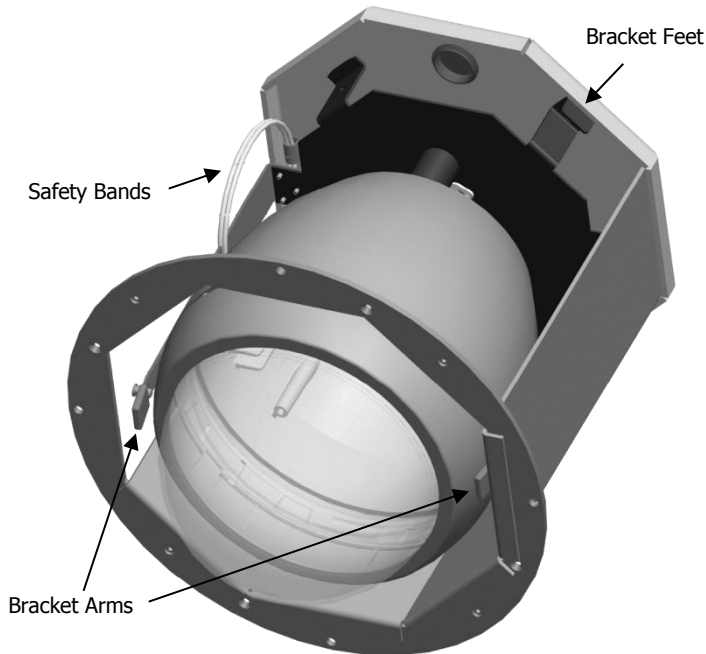
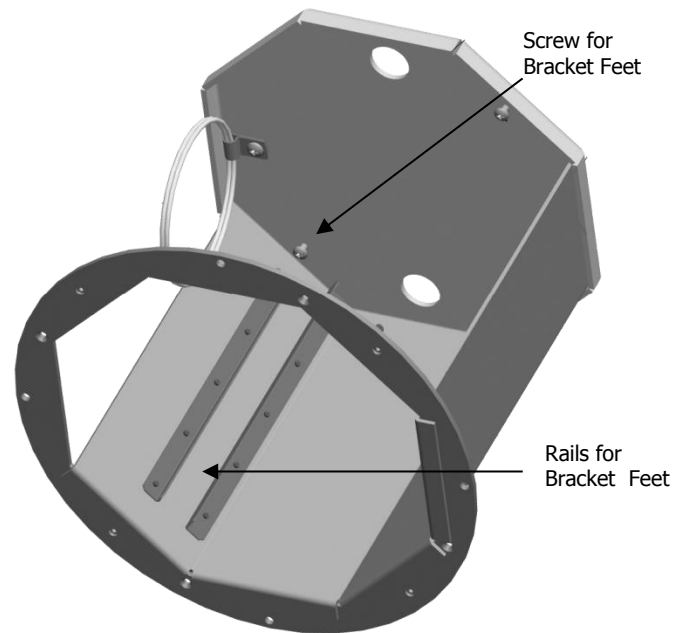

Figure 3 - Cross Section View of Soffit Mount
Figure 4 - Cross Section View of Soffit Mount - Camera Removed
2. Figure 3 shows a cross-section view of the mount with camera installed.
5. Mount feet should align with Rails (see Figure 4) and the camera/bracket assembly should slide down out of the backbox.
9. Identify the Bracket Feet shown in Figure 3. Two of the Feet contain a slot that will attach to the Screw shown in Figure 4. These same Feet will travel down the Rails.